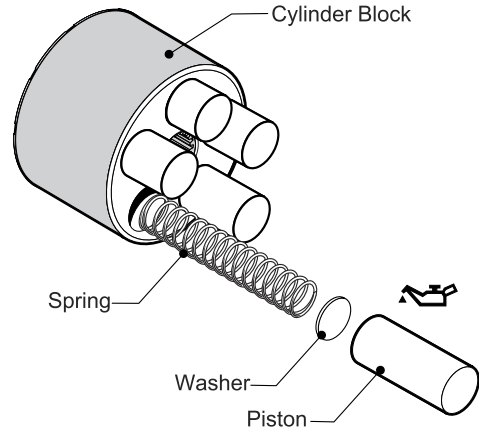

Fig. 27, Motor Cylinder Block
9. Place the (5) washers, springs and pistons into Motor Cylinder Block. (Fig. 27)